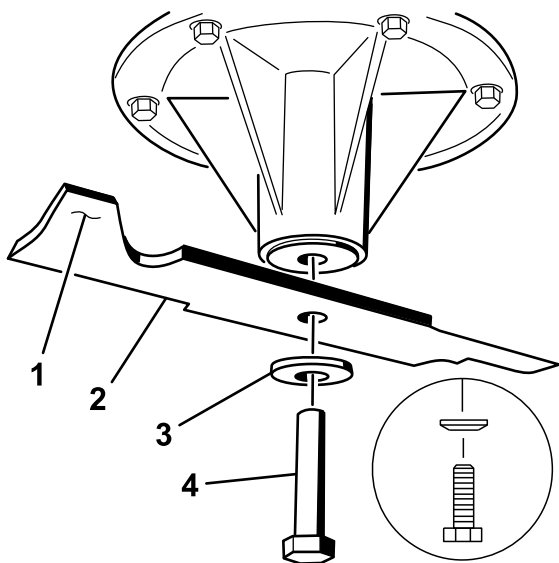
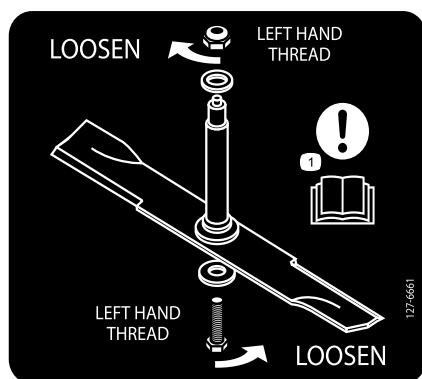

Figure 114
Figure 115
2. Remove the left and center blade bolt, curved washer, and blade from the spindle shaft (Figure 114).
3. Remove the right blade bolt (left threaded bolt), curved washer, and blade from the spindle shaft (Figure 114).
Note: Note the type of blade and where each blade is installed. See Figure 115 for the correct position.
Important: The right blade on this mower deck is counter-rotating and uses a left-threaded blade bolt. Use Figure 115 for the correct placement of the mower blades.
1. Install the left and center blades, curved washers, and blade bolts to the spindle shafts (Figure 114 and Figure 115).
Note: Install the curved-washer cone towards the bolt head (Figure 114).
2. Install the right blade, curved washer, and blade bolt (left-threaded bolt) to the spindle shaft (Figure 114 and Figure 115).